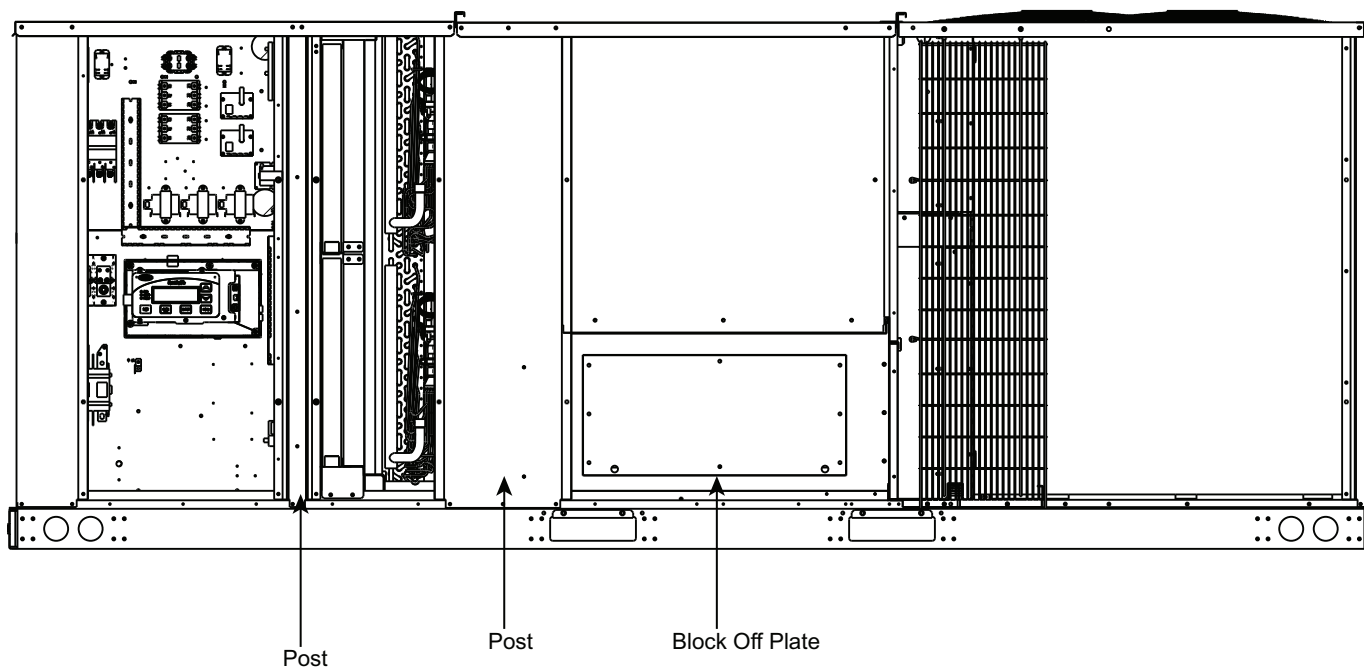

Fig. 47 — Block-Off Plate and Post Locations
3. Remove the block-off plate and save screws. Remove post adjacent to control box and post located between filter access and blower access. (See Fig. 47.)